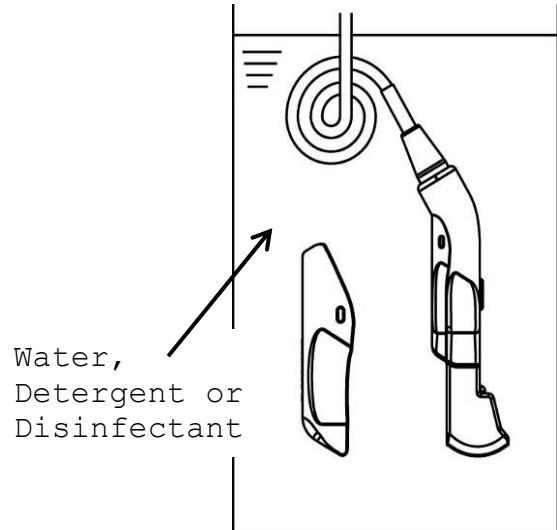

Fig. 18 Immersion of the probe and the Attachment.
- 2) Immerse the immersible part of the probe without connector into the diluted detergent solution (see Figure 18). Wipe the immersible part of the probe under the surface of the detergent solution with a soft cloth to remove all visible soil. Be sure that all grooves of the probe are implemented during the cleaning process.
- 5) Rinse the probe with running tap water for 1 minute. (alternatively: immerse the immersible part of the probe in a tray filled with deionized water/tap water (see Fig. 18) for 5 min.)
- 4) Rinse the Attachment with running tap water for 1 minute. (alternatively: immerse it in a tray filled with deionized water/tap water (see Fig. 18) for 5 min.)
- 3) Immerse the immersible part of the probe into the disinfectant (see Fig. 18). Set a clock to insure the recommended contact time which is 5 minutes.
- 4) Rinse the immersible part of the probe with deionized water for 1 minute. (alternatively: immerse the immersible part of the probe in a tray filled with deionized water (see Fig.18) for 5 min.)
- 2) Immerse the Attachment into the disinfectant (see Fig. 18). Set a clock to insure the recommended contact time which is 5 minutes.
- 3) Rinse the Attachment with deionized water for 1 minute. (alternatively: immerse it in a tray filled with deionized water (see Fig.18) for 5 min.)